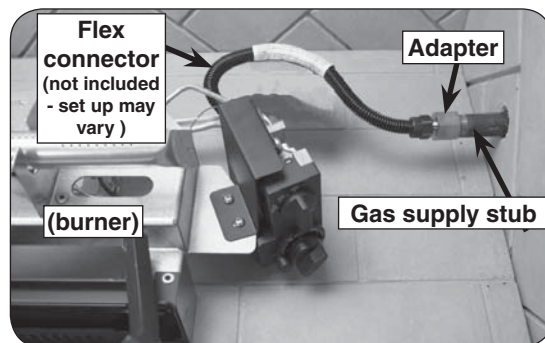

Fig. 16-1 Connect gas supply
2. Locate the gas-supply stub inside the fireplace and remove the cap, if attached (reference Fig. 16-1).